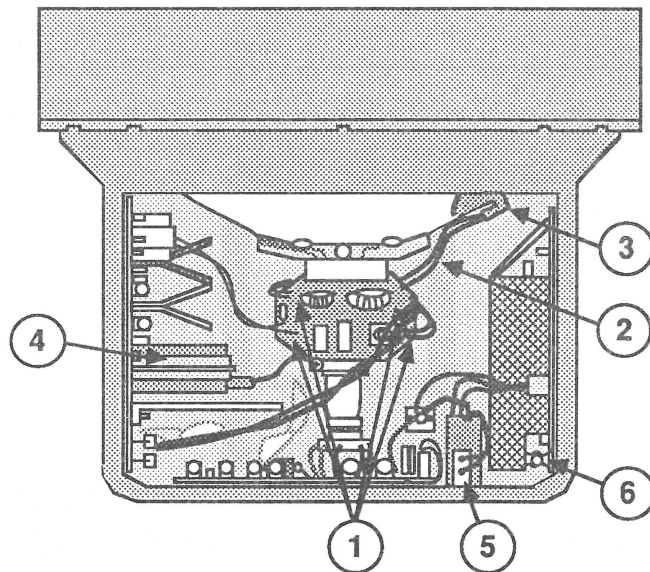

FIGURE 1
- Any part of the yoke assembly including the yoke wires (Figure 1, #1)
- The anode wire (Figure 1, #2)
- The anode connector (Figure 1, #3)
- The flyback transformer (Figure 1, #4)
- The inside of the AC power switch (Figure 1, #5)
- The primary fuse (Figure 1, #6)